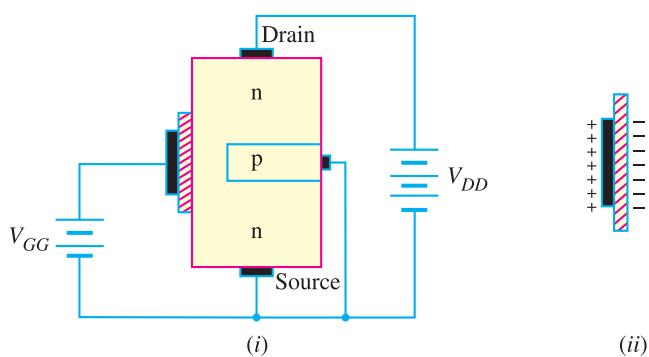

Fig. 19.48
**(ii) Enhancement mode.** Fig. 19.48 (i) shows enhancement-mode operation of *n*-channel *D-MOSFET*. Again, the gate acts like a capacitor. Since the gate is positive, it induces negative charges in the *n*-channel as shown in Fig. 19.48 (ii). These negative charges are the free electrons drawn into the channel. Because these free electrons are added to those already in the channel, the total number of free electrons in the channel is increased. Thus a positive gate voltage *enhances* or *increases* the conductivity of the channel. The greater the positive voltage on the gate, greater the conduction from source to drain.